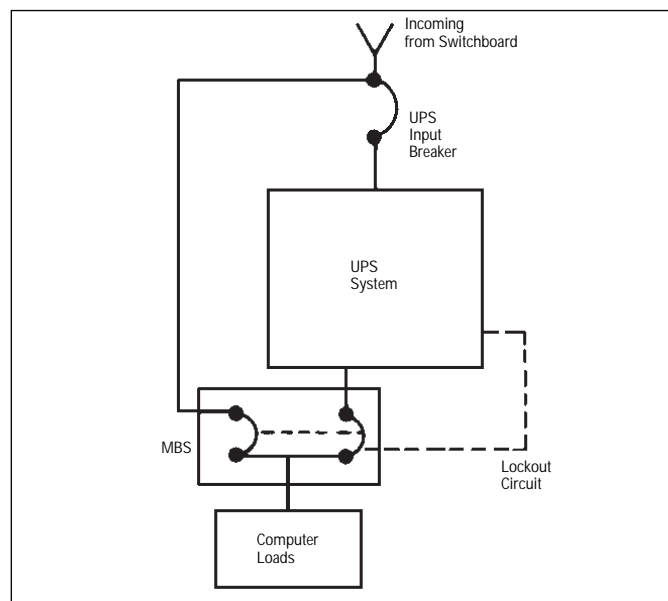

Figure 1 Application with Static UPS System
The Cutler-Hammer MBS switching panel consists of two (2) molded case switches interconnected by a unidirectional, motor driven transfer mechanism to achieve closed transition (make-before-break) switching between the power supply originating from the load side of the UPS equipment (Normal) and directly from the utility power supply (Bypass) originating upstream of the UPS equipment (Figure 1). The MBS is also supplied with its own control panel which provides operating voltage for transfer as permitted by a logic signal originating in the UPS controls. The MBS switching panel and control panel are interconnected by a keyed harness plug connector. A control device panel is mounted to the enclosure door of the MBS which permits local electrical operation to the normal or bypass positions via pushbuttons and also provides local status indication via pilot lights.